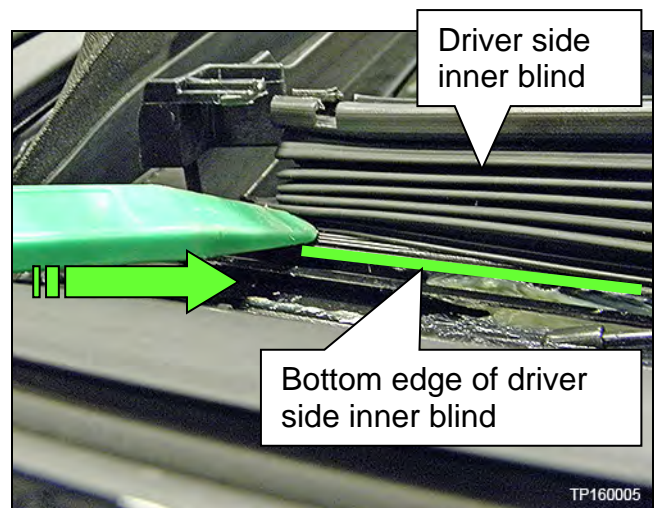

Figure 47
- c. Carefully detach the inner blinds from the Moonroof frame by pushing toward the inside of the vehicle along the bottom edge of inner blind (Figure 47).